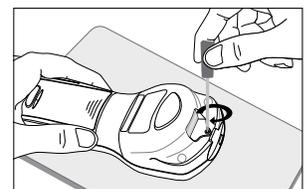

Figure 5
4. Use a small cross head (Phillips) screwdriver to insert the new screw. This will secure the strip port module in place. (Fig. 5)